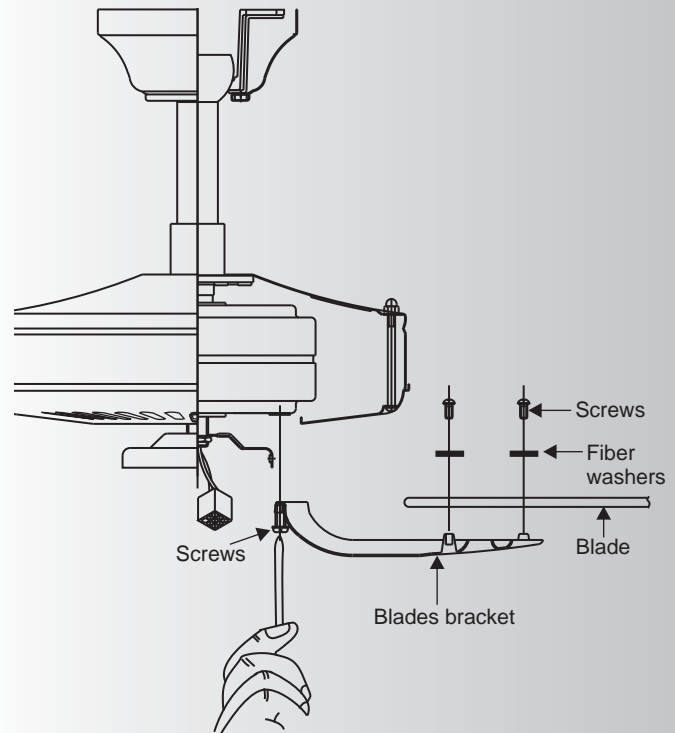

Fig. 16
Step 1. Attach the blade to the blade bracket using the screws and fiber washers as shown in Figure 16. Start screw into bracket. Repeat for the two remaining screws.